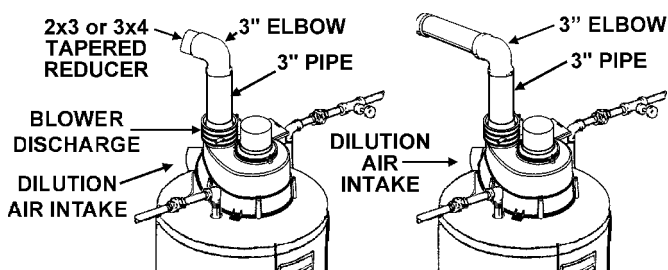

FIGURE 15.
- Make sure there is no packing material in the discharge of the blower or the intake of the dilution air restrictor, see Figure 15.
Figure 15 shows the optimal placement of the 2" to 3" or 3" to 4" reducer; however, the vent can be reduced at any point in the vent system as long as the maximum and minimum vent length requirements are met.
Except where instructed in this manual, the mixing of 2", 3" and 4" vent pipe is NOT ALLOWED. If 2" pipe is to be used, then a 2" to 3" bell reducer is recommended. Figure 15 shows the recommended location for the bell reducer. If the bell reducer is located at the rubber boot on the blower assembly, then a short section of 3" vent pipe needs to be installed in the rubber boot for proper connection of the 2" to 3" bell reducer. That length can be of the minimum length required for the connection.
If 4" pipe is to be used, then a 3" to 4" bell reducer is recommended. Figure 15 shows the recommended location for the bell reducer. If the bell reducer is located at the rubber boot on the blower assembly, then a short section of 3" vent pipe needs to be installed in the rubber boot for proper connection of the 3" to 4" bell reducer. That length can be of the minimum length required for the connection.